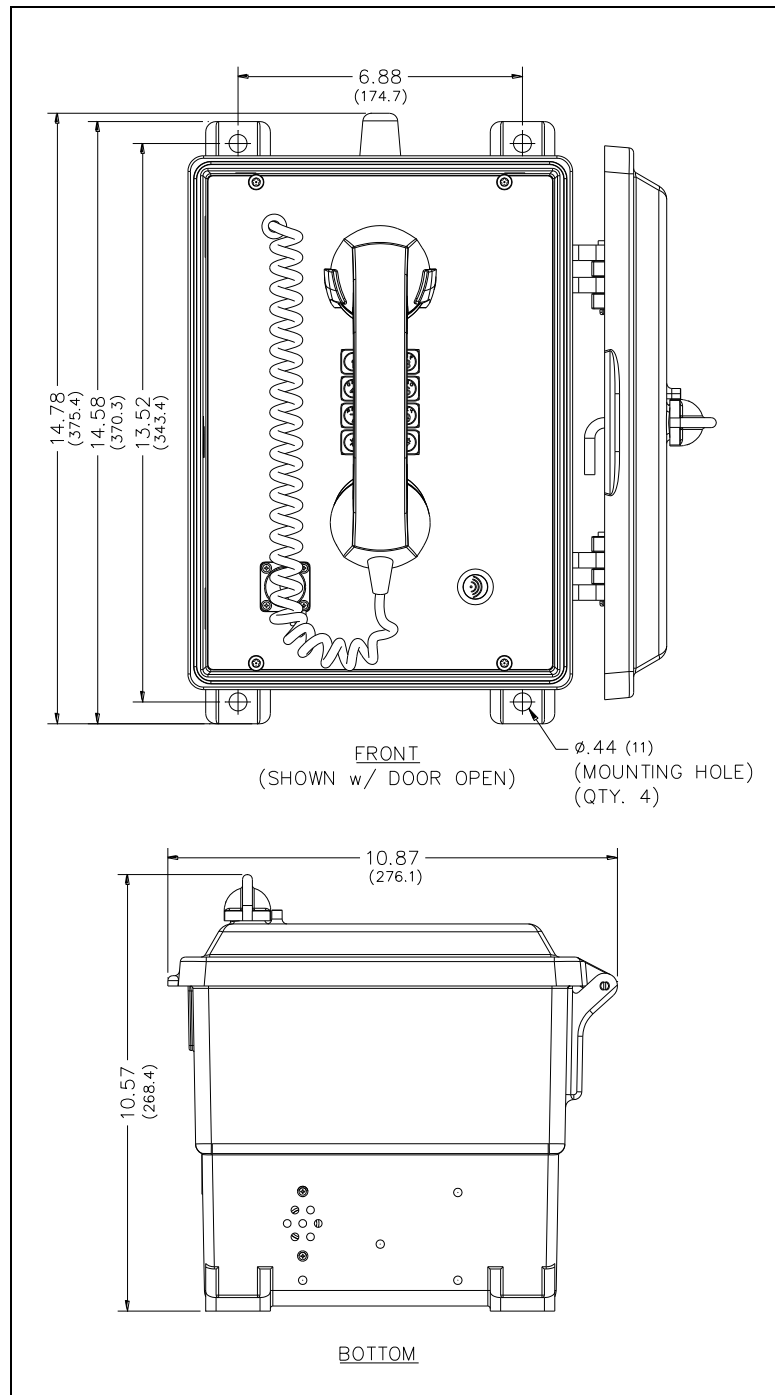

Figure 5. Mounting Details
1. Mount the enclosure using the four 0.437-inch (11 mm) diameter holes located on the mounting flanges with 3/8-inch (M8) hardware (see Figure 5).
3. Drill or punch entry openings in the rear section of the enclosure (see Figure 5).